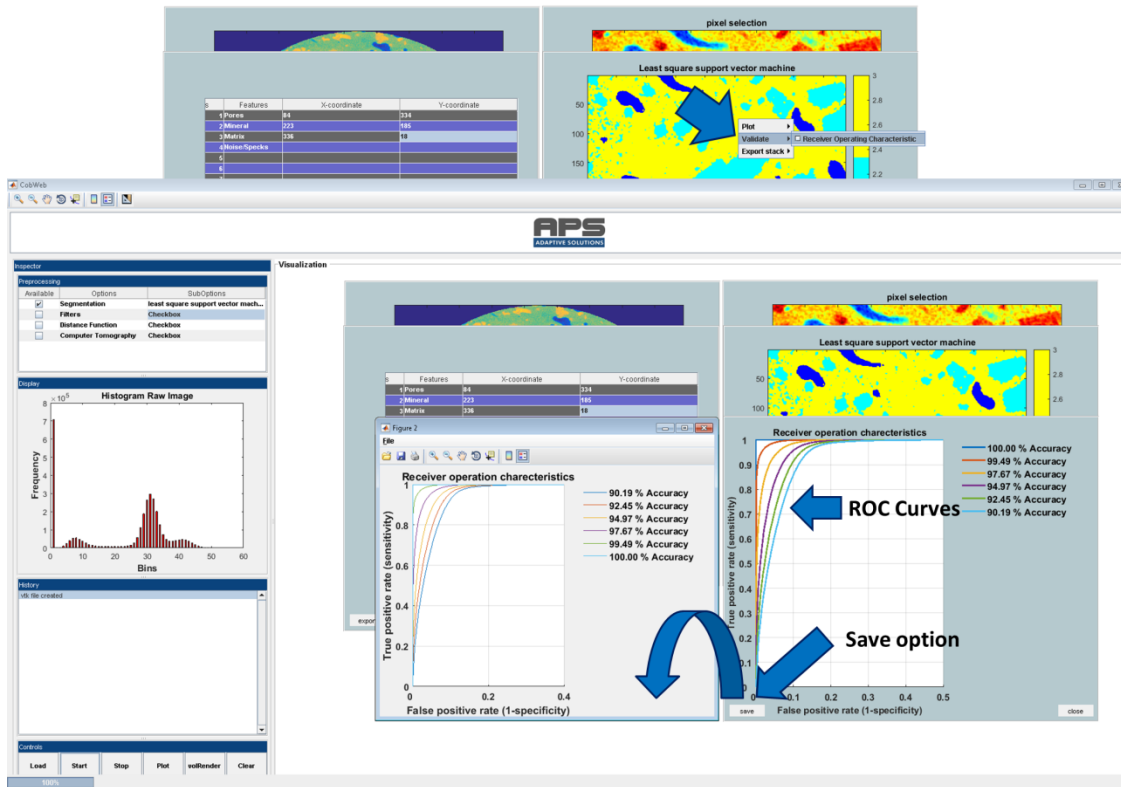

Figure 41: Plotting receiver operational characteristics (ROC)
- Figure 41 (top panel); To plot receiver operation charecteristics (ROC), right click on the segmented image and **select validation → Receiver Operation Charecteristics**.
- Figure 41 (bottom panel): The plotted ROC can be saved in the desired image format by clicking the save option (see Figure 41).